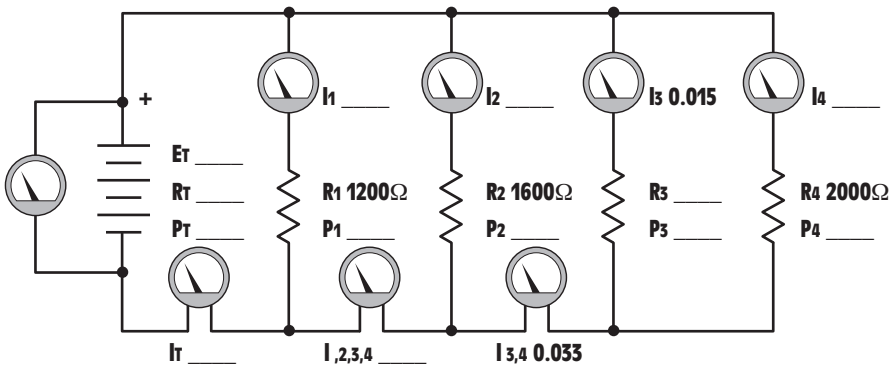

Figure 6-30 Practice Problem 5.
5. Find the missing values in the circuit shown in *Figure 6-30*.